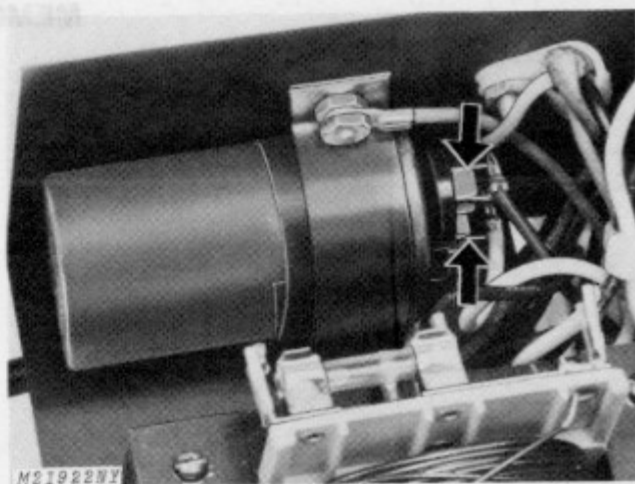

Fig. 12-Checking Condenser (Capacitor)
3. Touch ohmmeter probes to condenser terminals, Fig. 12. Ohmmeter needle should deflect and move toward the original position. This indicates condenser is good.